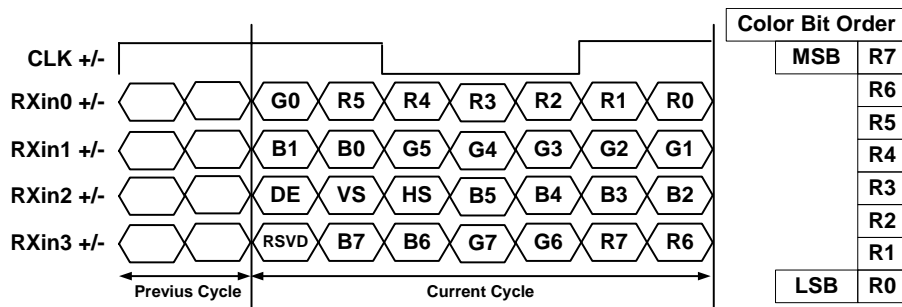

Figure 5-2 - LVDS Data/Color Mapping for Single Channel, 8-bit panel
- For WXGA (1366x768) panels, a single LVDS channel is used with only the ODD channel and the mapping shown in Figure 5-2